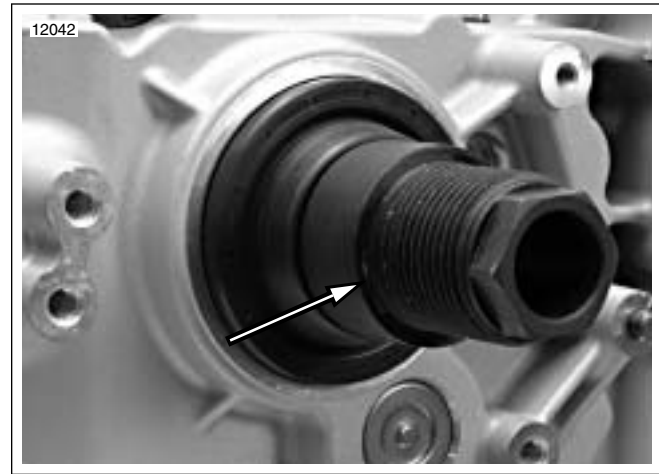

Figure 6-79. Install Adapter (Part No. HD-47856-4) (Typical)
4. See Figure 6-79. Thread ADAPTER (Part No. HD-47856-4) onto end of main drive gear several turns. Do NOT tighten. Doing so could make it difficult to remove adapter after seal has been installed.